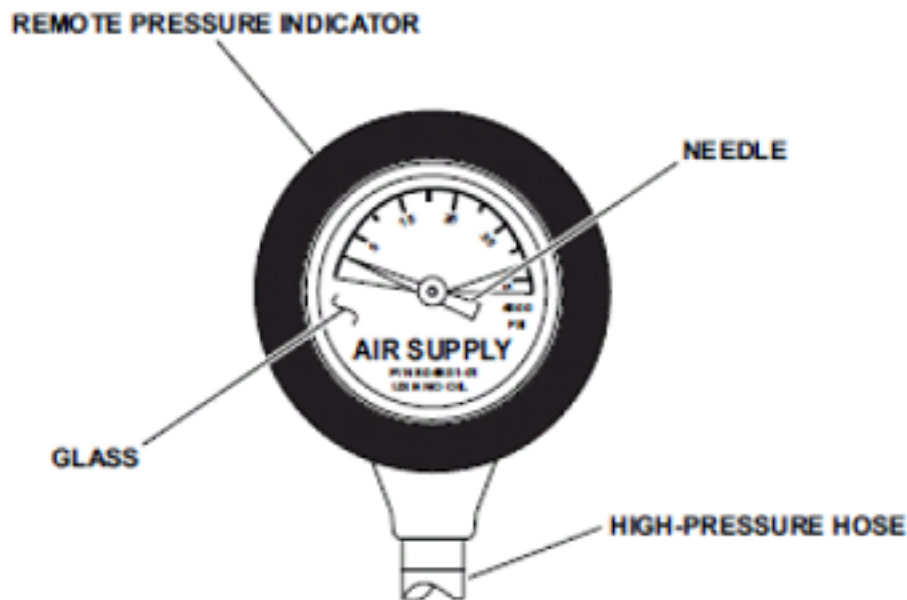

Figure 551-88L-2049_11
(1) Check the SCBA remote pressure indicator, (refer to Figure 551-88L-2049_11).